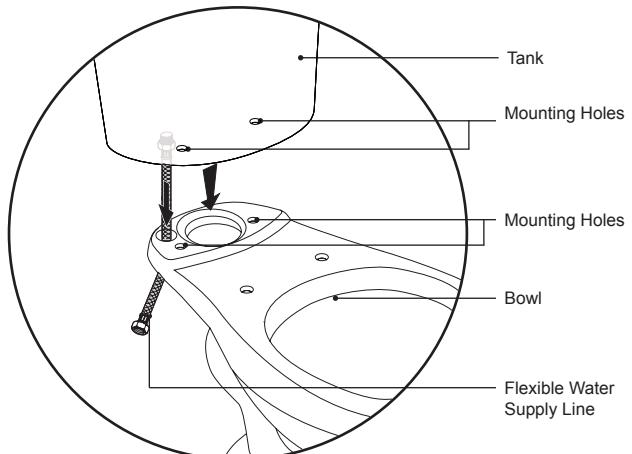

Figure 10
- ③** Place the tank on the bowl, aligning the mounting holes of the tank with the mounting holes on the bowl (Figure 10).
Figure 10 applies to the Espree™ toilet installation only.